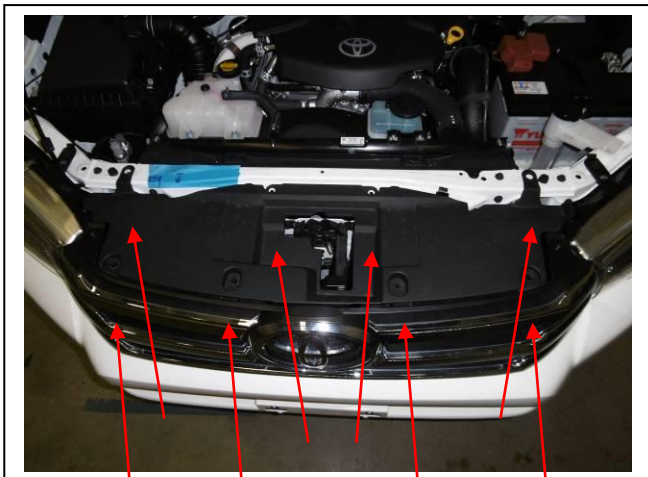

Figure 1
2. Remove eight plastic push pull clips from top panel between headlights and remove panel. **See figure 1.**